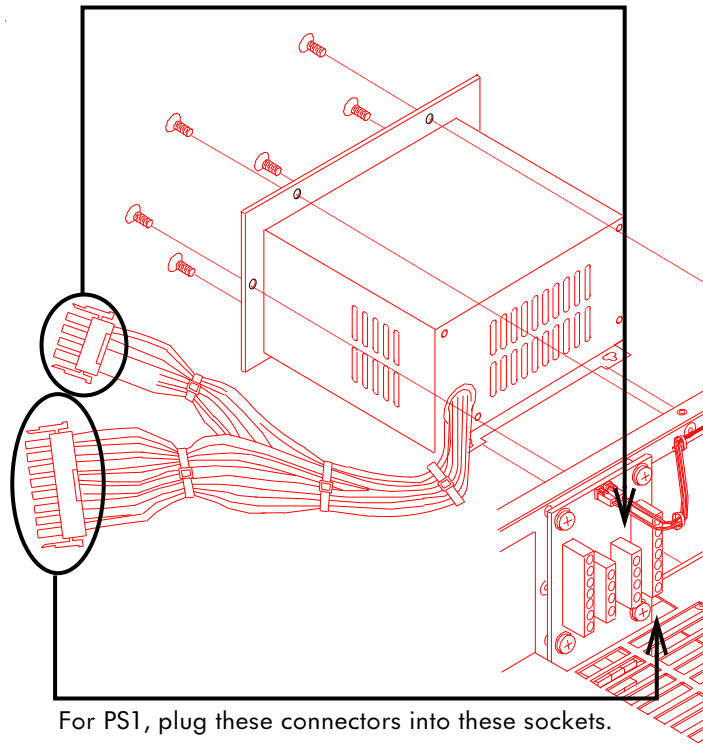

FIGURE 5–2 Where the power supply cables plug into the power backplane.
- (1) If a coverplate is installed over the power supply bay, use the #2 Phillips-head screwdriver to remove the coverplate and store it in a safe place.
- (2) Plug the two connectors into the matching sockets on the power backplane, as shown in Figure 5–2. The connectors are keyed and fit only one way onto the sockets. Make sure you plug the connectors into the sockets on the same side as the power supply.
- (3) After you plug the connectors into the appropriate sockets on the power backplane, insert the power supply all the way into the bay. Make sure the power supply cables are not accidentally pinched by the power supply. Note that the secondary power supply is installed upside down relative to the primary supply. Make sure you install the supply according to the orientation shown in Figure 5–3 on page 74.